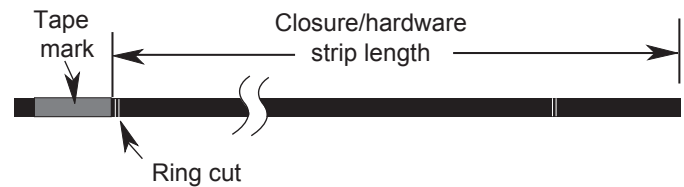

Figure 3
- Step 4:** Based on the closure/hardware documentation being used, measure and use a wrap of vinyl tape to mark the required jacket removal length (Figure 3).
- Step 5:** Use the Ideal tool to make a second ring cut on the cable end side of the tape mark (Figure 3).